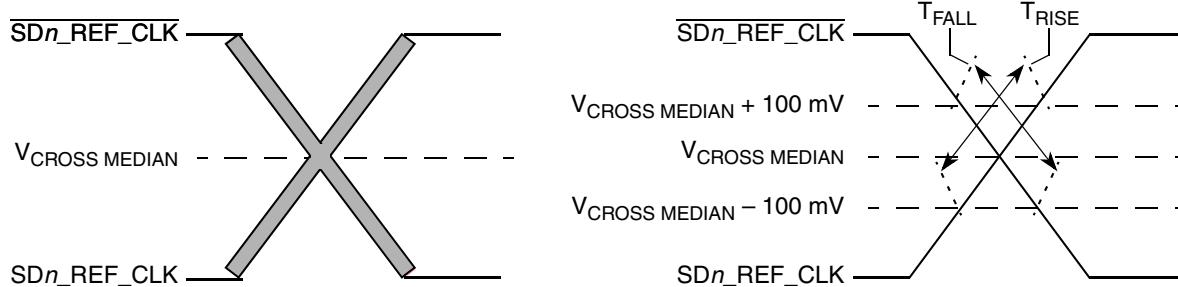

Figure 41. Single-ended measurement points for rise and fall time matching
6. Matching applies to rising edge for SD_REF_CLK n and falling edge rate for SD_REF_CLK n . It is measured using a 200 mV window centered on the median cross point where SD_REF_CLK n rising meets SD_REF_CLK n falling. The median cross point is used to calculate the voltage thresholds that the oscilloscope uses for the edge rate calculations. The rise edge rate of SD_REF_CLK n should be compared to the fall edge rate of SD_REF_CLK n , the maximum allowed difference should not exceed 20% of the slowest edge rate. See Figure 41.